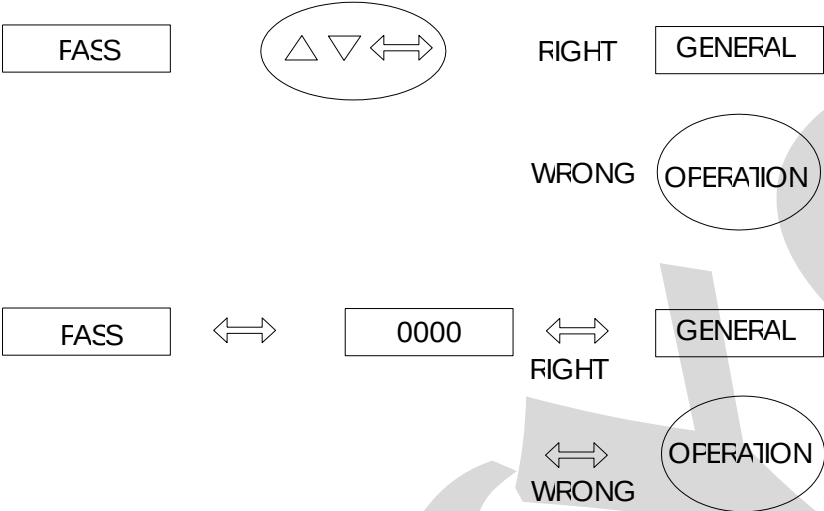

Figure 9 - Password through key sequence or value
- To display the PASS warning, indicating that the instrument is provided with a password system (a key sequence or a value), according to figure 9.
For a value password, the user must press the ENTER key for a second time in order to view the number 0000 with the right end digit blinking. The position which is blinking indicates the digit to be changed by the user with the UP and DOWN keys. Move to the digits on the left by pressing ENTER. After entering all digits, press ENTER again. If the password is correct level 1 is accessed; otherwise, it returns to normal operation (see figure 9).